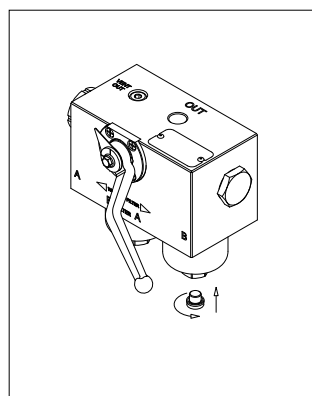

fig. 20
- (Fig. 20) Screw the drain plug in referring to the tightening torque table in paragraph 3